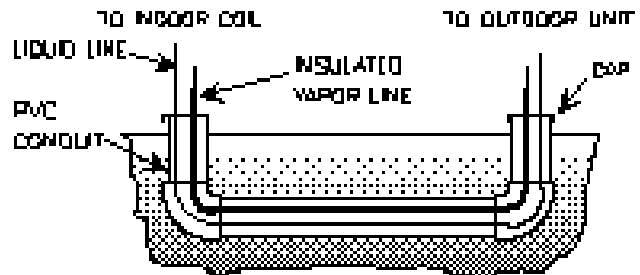

FIGURE 4 : UNDERGROUND INSTALLATION
5. Use PVC piping as a conduit for all underground installations as shown in Figure 4. Buried lines should be kept as short as possible to minimize the build up of liquid refrigerant in the vapor line during long periods of shut-down.